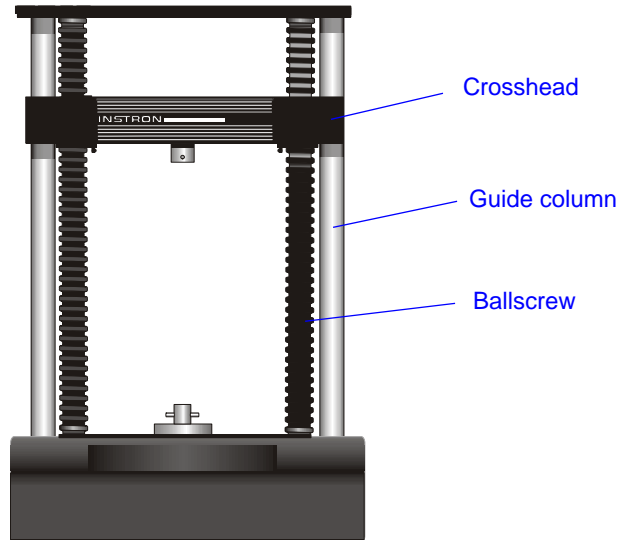

Figure 5-2. Lubricating the Guide Columns on Floor Frames
1. Turn the power switch to the Off (O) position and disconnect the power cable from the main power source. Ensure that the **POWER** indicator light does not illuminate.
2. Detach the ballscrew covers from the crosshead and slide the covers away from the crosshead. Refer to Figure 5-2 on page 5-8 to locate the guide column inside the column cover.